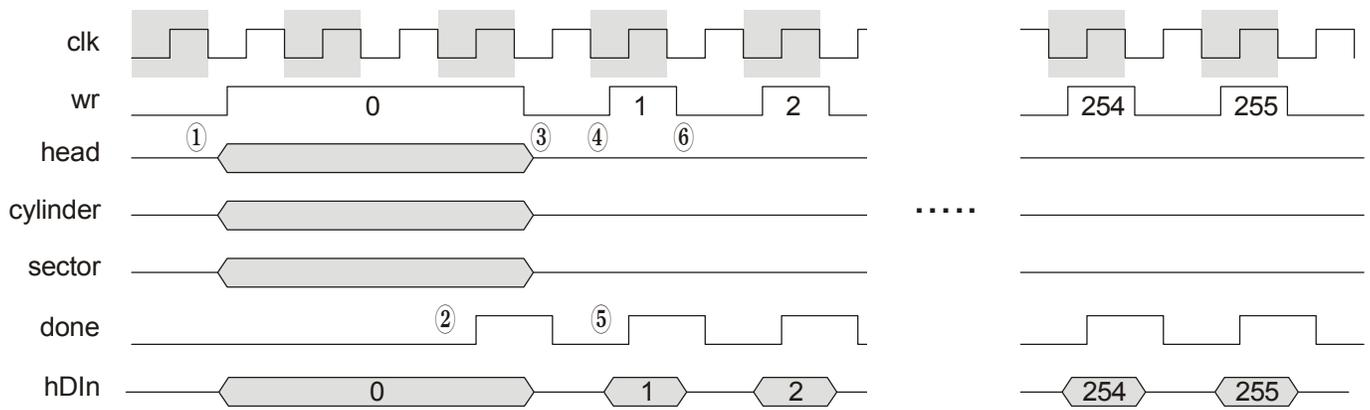

Figure 3: ATA controller write sector waveforms.
The waveforms for writing a disk/CF sector are shown in Figure 3. At ①, the host provides the head, cylinder and sector numbers and the first word of data to be stored in the sector. The write control line is raised and then there is a delay as the disk/CF addresses the given sector. At ②, the first data word is written from the hDIn bus into the sector and the done signal is raised. At ③, the host lowers wr before the next rising clock edge. Then the host provides the next data word and raises the wr input at ④ to write it into the sector. The ATA controller will respond quickly by raising done at ⑤ after which the